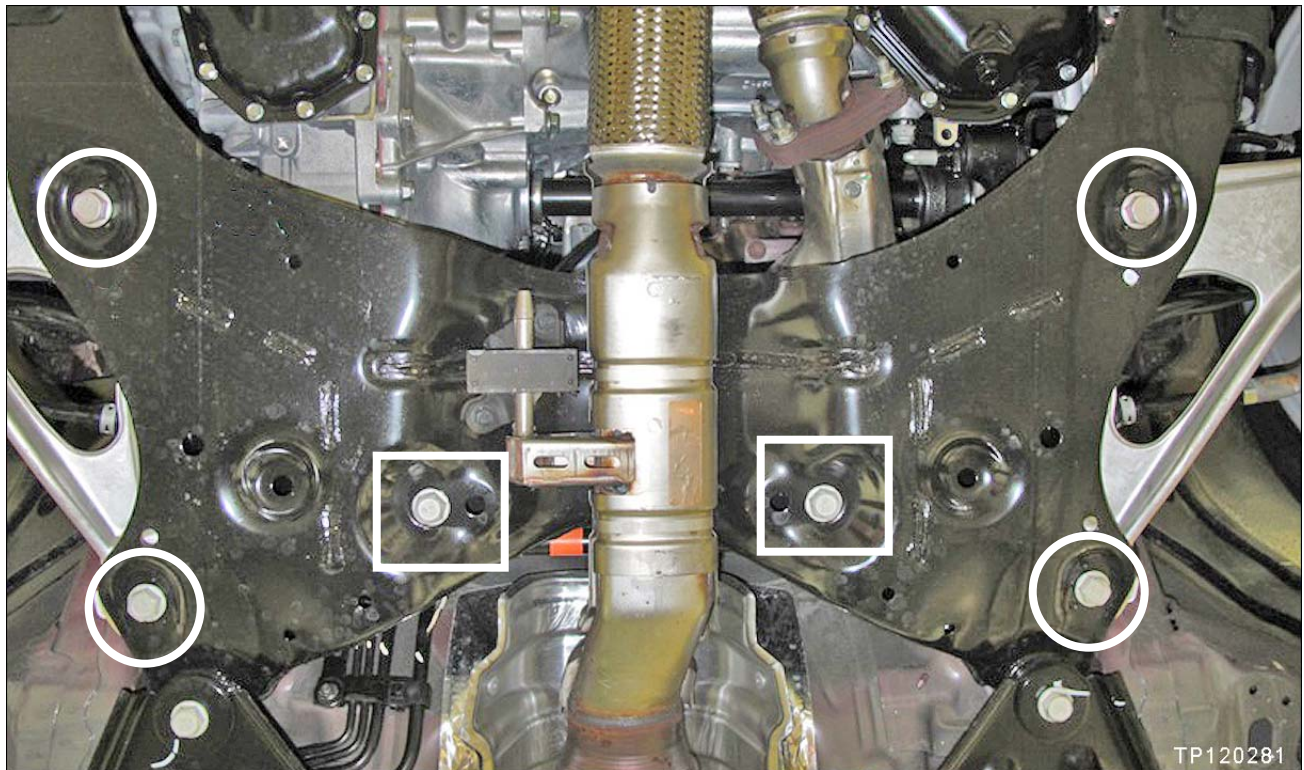

Figure 1
2. Locate the bolts shown in Figure 1.
- Four (4) transverse link bolts:  Torque to 155 N•m (16 kg-m, **114 ft-lb**).
- Two (2) power steering rack bolts:  Torque to 155 N•m (16 kg-m, **114 ft-lb**).